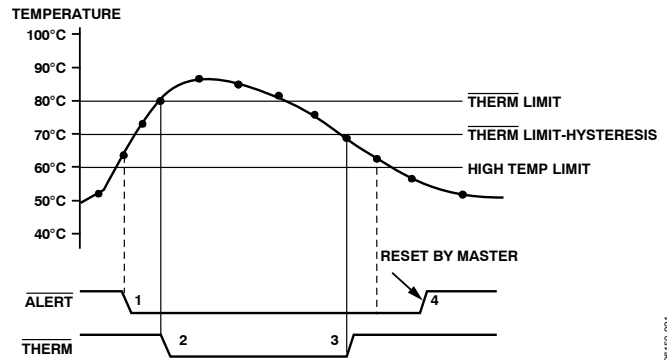

Figure 21. Operation of the ALERT and THERM Interrupts
Figure 21 shows how the THERM and ALERT outputs operate. If desired, use the ALERT output as a SMBALERT to signal to the host via the SMBus that the temperature has risen. Use the THERM output to turn on a fan to cool the system, if the temperature continues to increase. This method ensures that there is a fail-safe mechanism to cool the system, without the need for host intervention.
3. The THERM output de-asserts (goes high) when the temperature falls to THERM limit minus hysteresis. In Figure 21, the default hysteresis value of 10°C is shown.